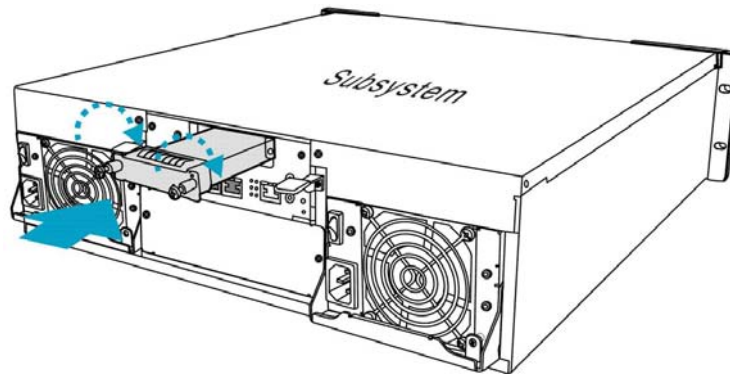

Figure 2-4: Installing the BBU Module
Step 5. **Secure the BBU module to the chassis.** Fasten the two (2) retention screws on the BBU module to secure the BBU module to the chassis. (See **Figure 2-4**)